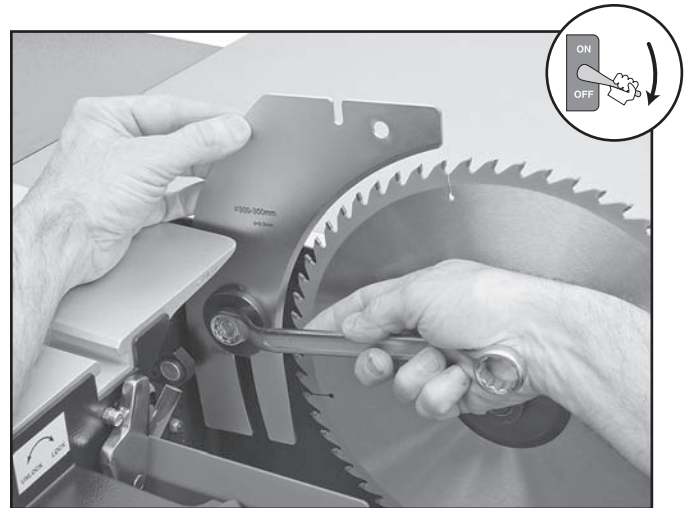

Figure 69. Adjusting the riving knife.
5. Loosen the riving knife hex nut, as shown in **Figure 69**.